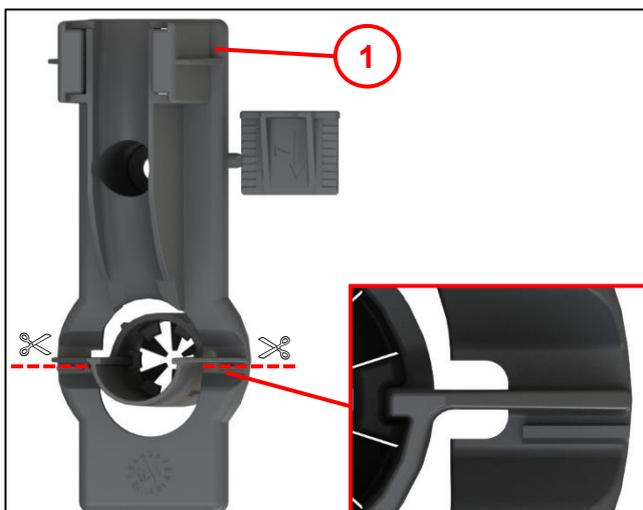

Fig. 16
**Note:** For installation close above the base plate, continue with Fig. 16.
- Position the guide element (1) at the hole and drive in until the base plate is in contact with the wall.
- Drive the dowel nail 6 x 4 mm (2) into the wall and tighten.